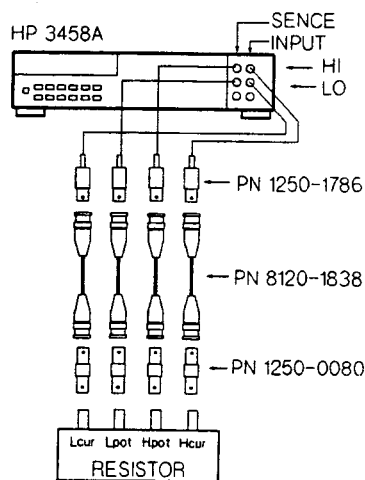

Figure 3-2. Verification Check Setup for Resistors
2. Connect the multimeter to 10Ω resistor as shown in Figure 3-2.